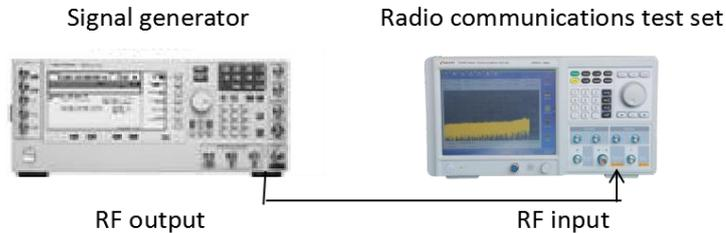

Fig. 4-5 RF receiver wiring diagram
The section introduces RF receipt operations of the S5104 series radio communications test set, and takes the Aglient E4438C signal generator for RF signal generation, with instrument wiring shown in Fig. 4-5. Start up the tester and warm it up for 15 minutes, and then click `[[Demodu]]` in the upper right of the screen to switch to the RF receipt performance test mode.
- 1) Connect the instrument as per Fig. 4-5;